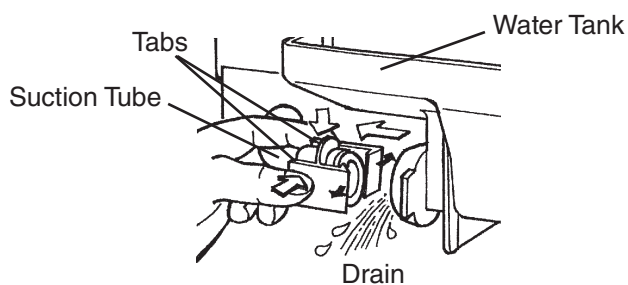

Fig. 31
- 3) Inside the ice storage bin, disconnect the suction tube by squeezing the tabs and pulling the tube clear. See Fig. 31. Allow the water tank to drain.